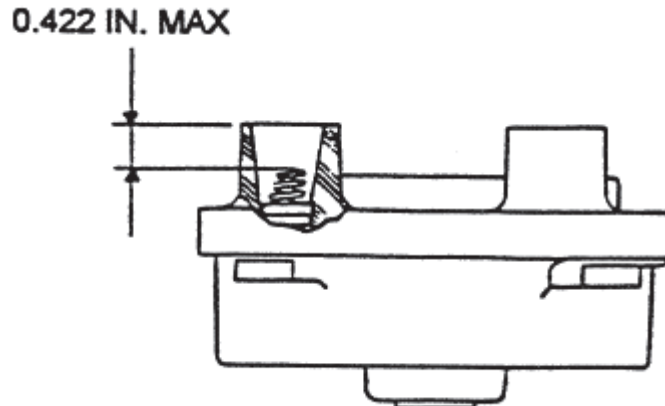

Figure 7-3. Contact Spring Height
3. Examine the distributor block (21) for cracks, particularly around high tension terminal towers, mounting holes and the nose in the center of electrode side. Discard and replace cracked distributor blocks.
4. Clean the distributor block (21) according to instructions in Section 5-2, step 4.
5. Inspect contact springs (22), on the tower side of the distributor block (21). If a contact spring appears fuzzy or white, or exhibits signs of burning, rust or corrosion, remove with needle nose pliers and discard. Check springs for proper height by measuring down from the top of tower. If the measurement exceeds 0.422 inch (Figure 7-3), the spring may be deformed or improperly installed. Using a scribe, or similar pointed instrument, wiggle the top of spring in a circular motion to ensure only the bottom turn of the spring is captive in the block insert groove. Recheck spring height; if measurement still exceeds 0.422 inch, remove and replace spring.